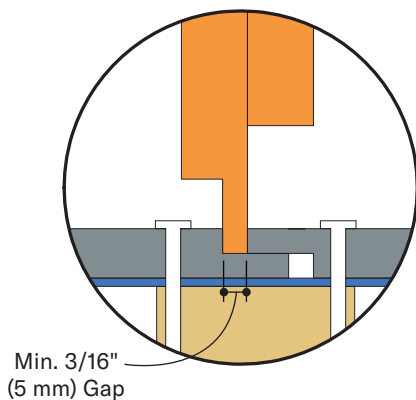

Figure 4c
- **Provide a min. 3/16 inch (5 mm) gap at butt joint.** (Figure 4c)